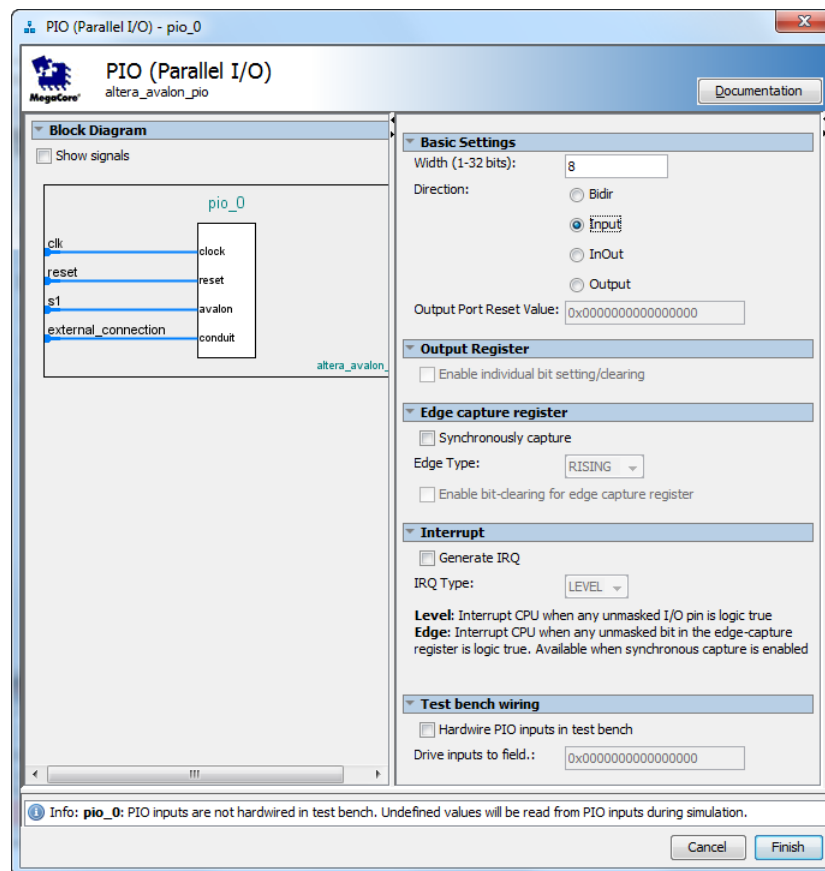

Figure 11. Define a parallel input interface.
- Select Processors and Peripherals > Peripherals > PIO (Parallel I/O) and click Add to reach the PIO Configuration Wizard in Figure 11